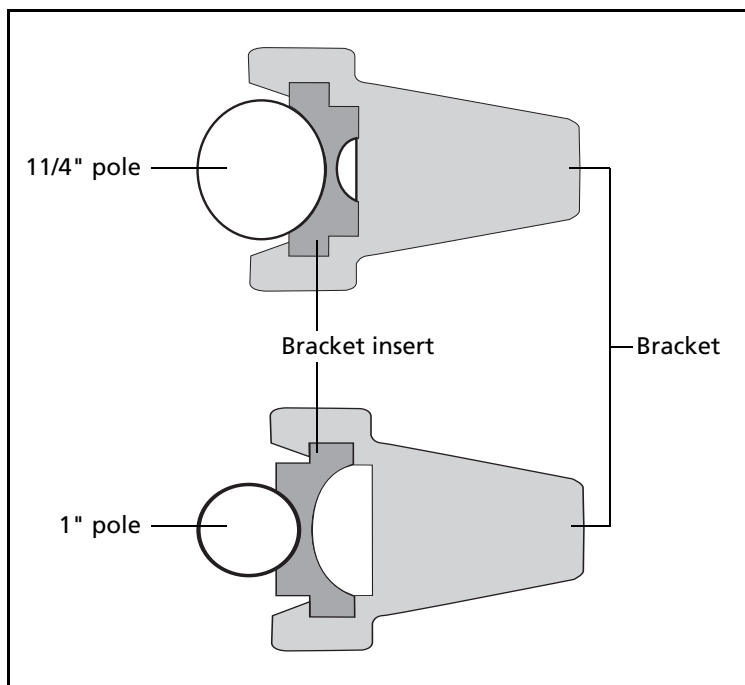

Figure 3.8 Receiver bracket insert
*If you are using a 1" diameter pole, flip the black insert around inside the bracket, as shown in Figure 3.8.*